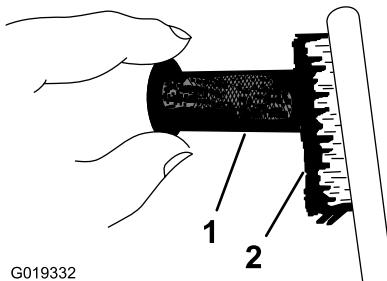

Figure 47
- Use a brush to remove carbon deposits from the spark arrester screen. Replace the spark arrester if it has breaks or holes (Figure 47).